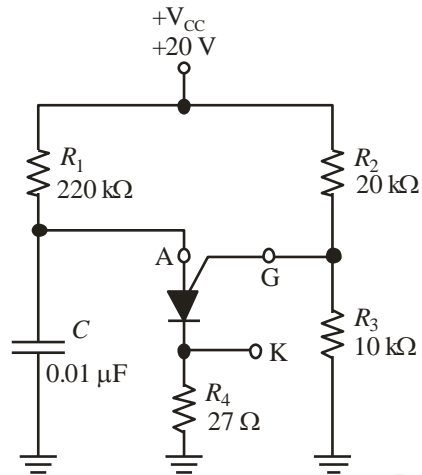

Figure 23: PUT relaxation oscillator.
H.W.: What is intrinsic standoff ratio, and the period of the circuit in the figure 23?